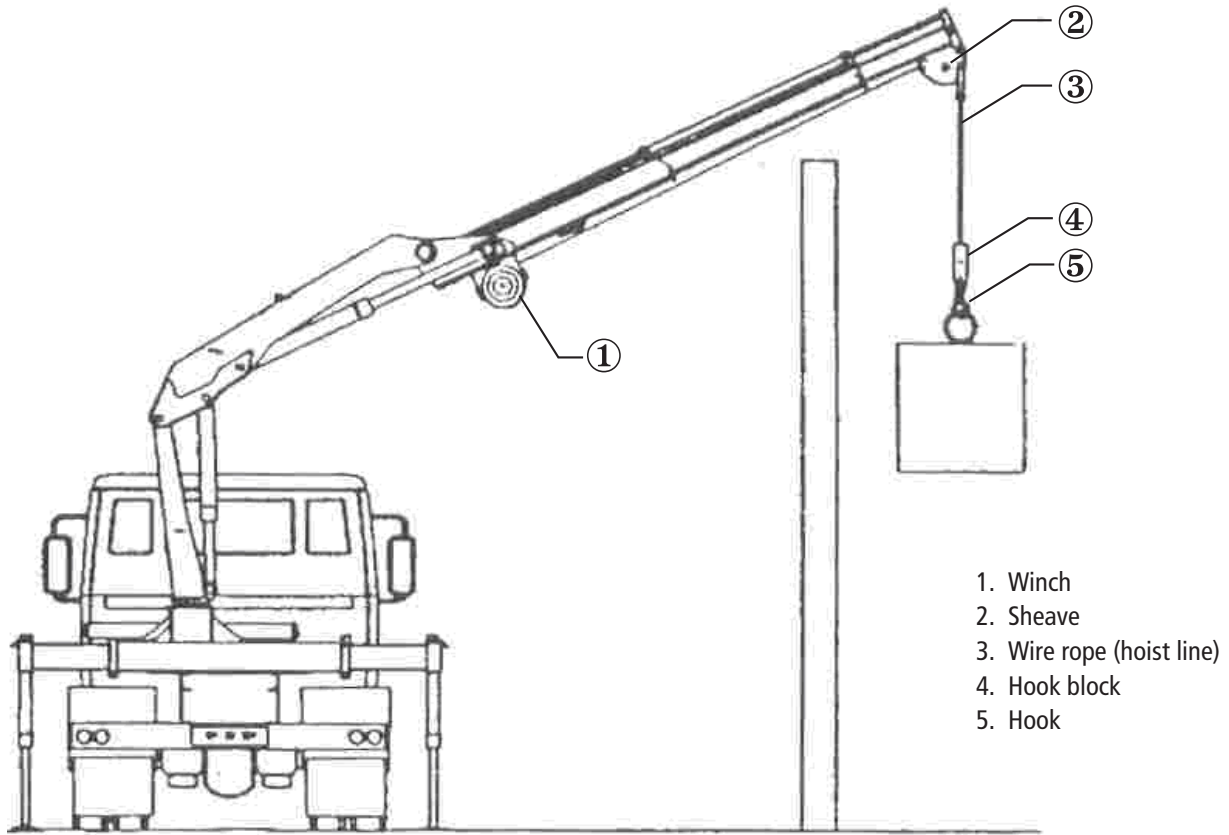

Figure 1.3: Articulating boom crane with winch (ABW)
**articulating boom crane with winch (ABW):** A crane with two or more boom sections that pivot (articulate) via hydraulic cylinder(s) and used with a load hoist mechanism; see Figure 1.3 (page 6)